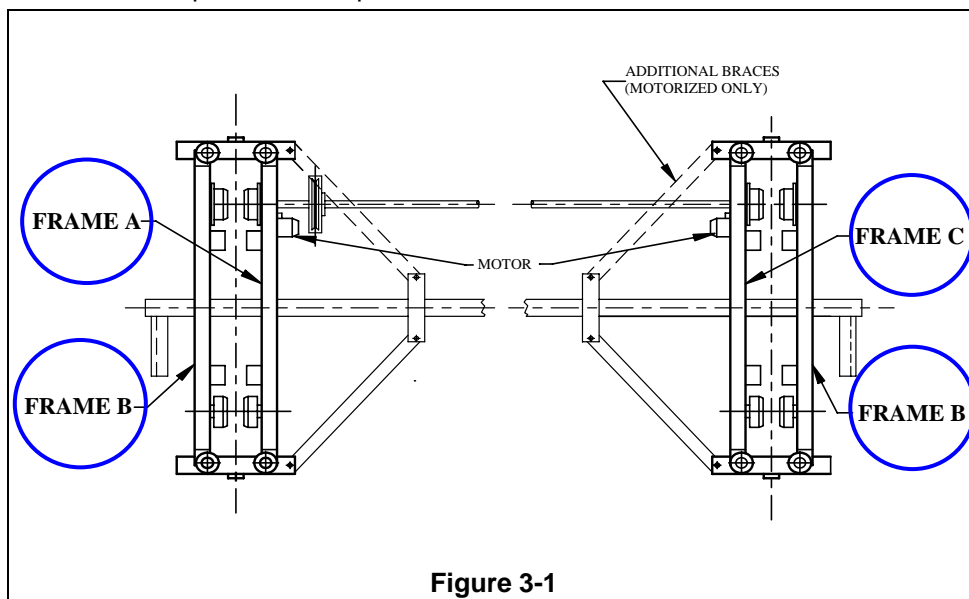

Figure 3-1
3.1 Underhung End Trucks- (See Figure 3-1)
- a) Refer to Figure 3-1 and Figure 3-3. Separate frames A and B, and C and B of each end truck assembly from each other by removing the end brackets and, for geared and motorized end trucks, the pillow blocks, pinions, and collars.